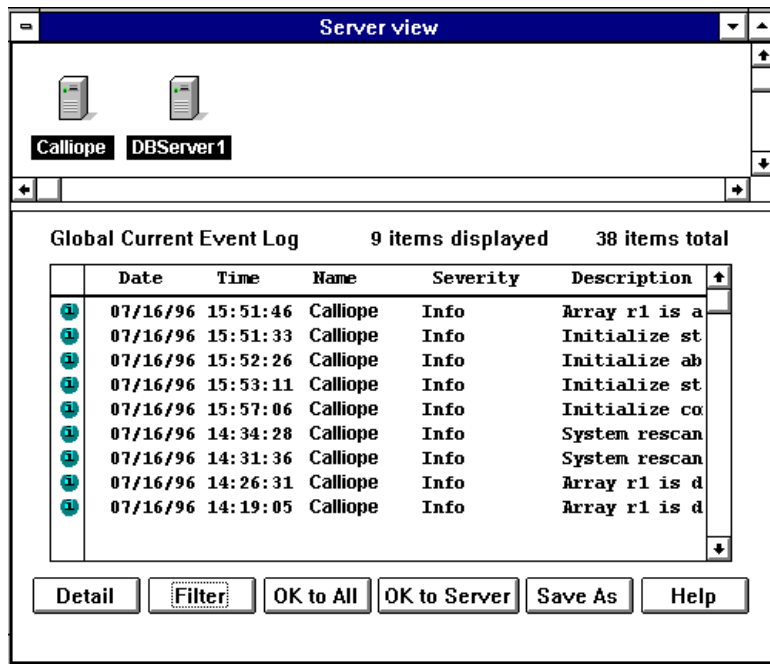

Figure 7-3. Listing of Server Events
- 1 Select **Server View** from the File menu. The Server View window appears. The Global Current Event Log at the bottom of this window lists server events, as shown in Figure 7-3.